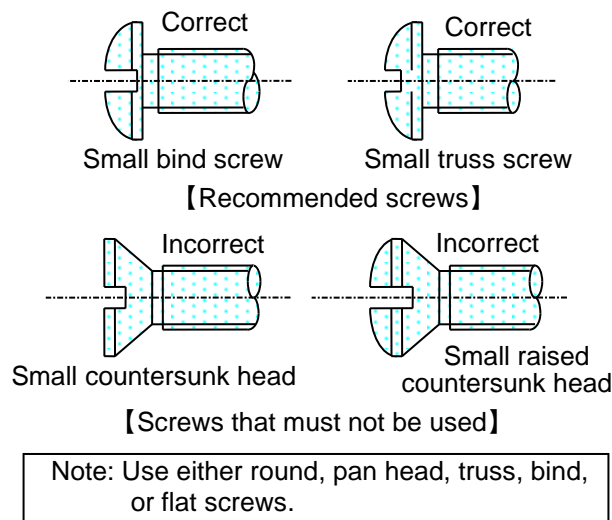

Fig. 11 Recommended and Prohibited Screws
- Avoid using countersink screws, which add abnormal stress to devices (Fig. 11).